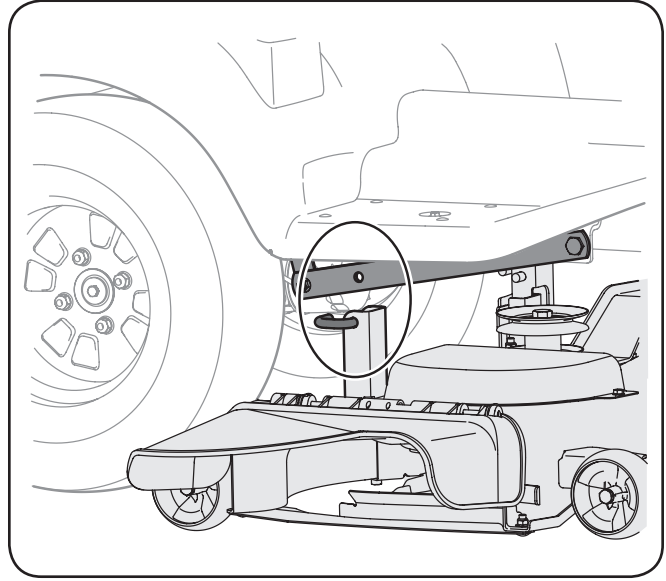

Figure 7-5
- Align the tractor's lift links with deck support pins found on the rear deck brackets. See Fig. 7-5.